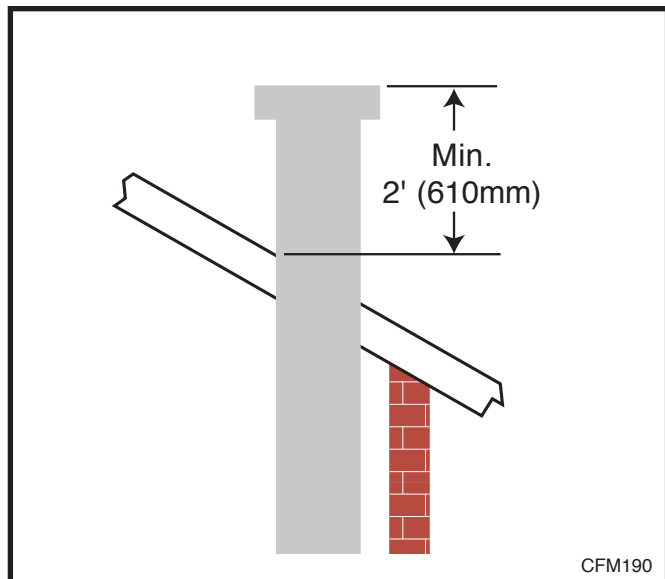

Fig. 34 Minimum termination to roof clearance.
10. Add additional vent lengths for proper height. (Fig. 34)